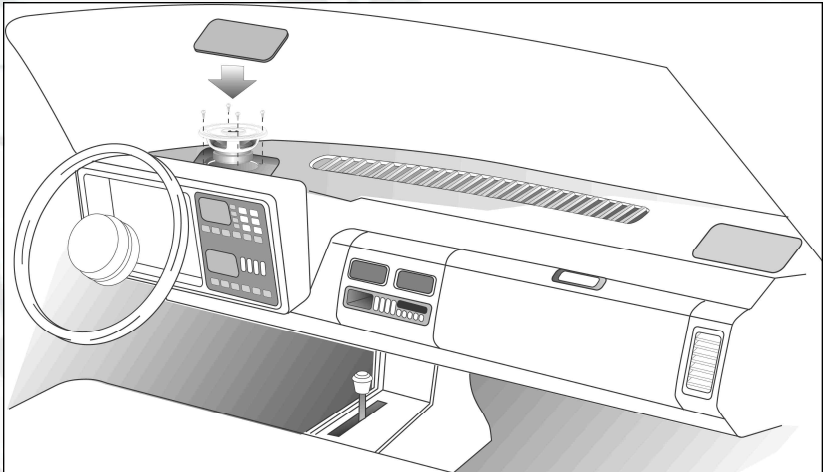

Figure 3 - Factory dash speaker location.
- 1. Vehicles with dashboard speaker locations (Figure 3) typically will not require modification. Use extreme caution when removing the factory grills.